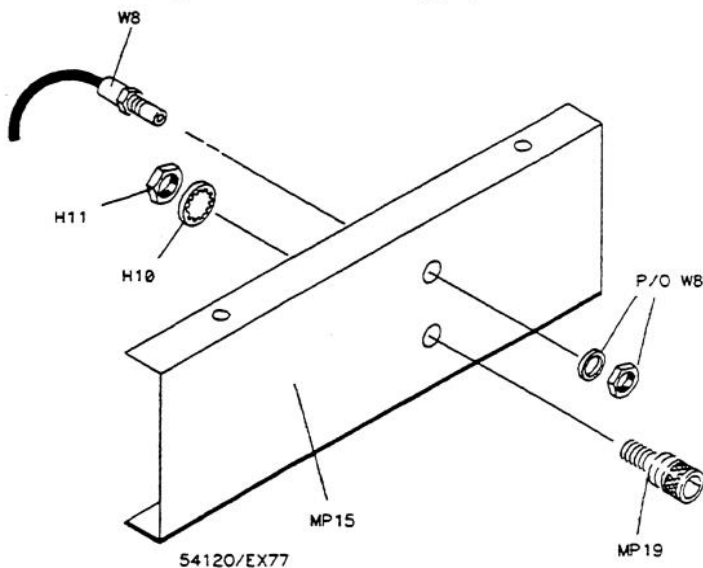

Figure 6-2. Trigger Power Cable Removal
3. Use a 1/4 inch nut driver or wrench to remove hex nut and washer which attach the trigger power cable to the rear panel. Refer to figure 6-2.